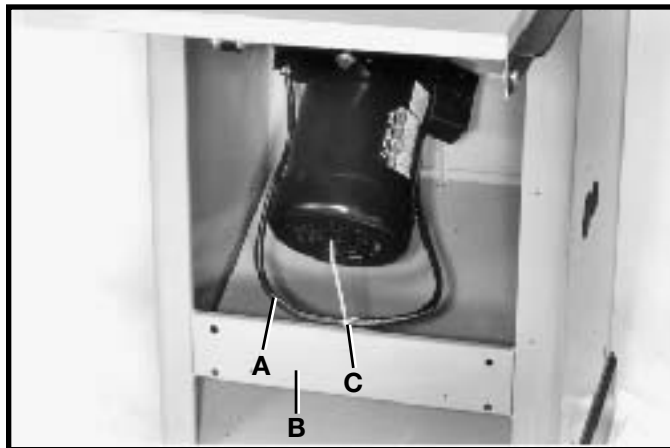

Fig. 39
3. Fasten motor cord (A) Fig. 39 to the saw frame cross member (B), using the cable tie (C) supplied with the saw. **CAUTION:** Before tightening the cable tie, make certain that cord (A) is free of any interference from the motor or saw blade at all possible positions of the motor.
4. After the cable tie is tightened, cut off excess tail of cable tie (C) Fig. 39.